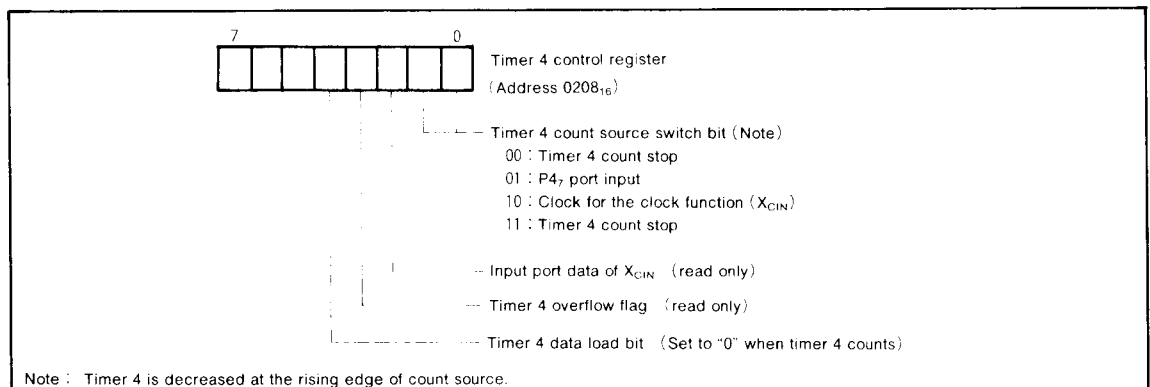

Fig. 8 Structure of timer 4 control register
The count source of timer 4 can be selected by bit 0 and bit 1 of timer 4 control register (address 0208₁₆). When bit 0 and bit 1 are set to (00) or (11), timer 4 stop counting. The structure of timer 4 control register is shown in Figure 8.